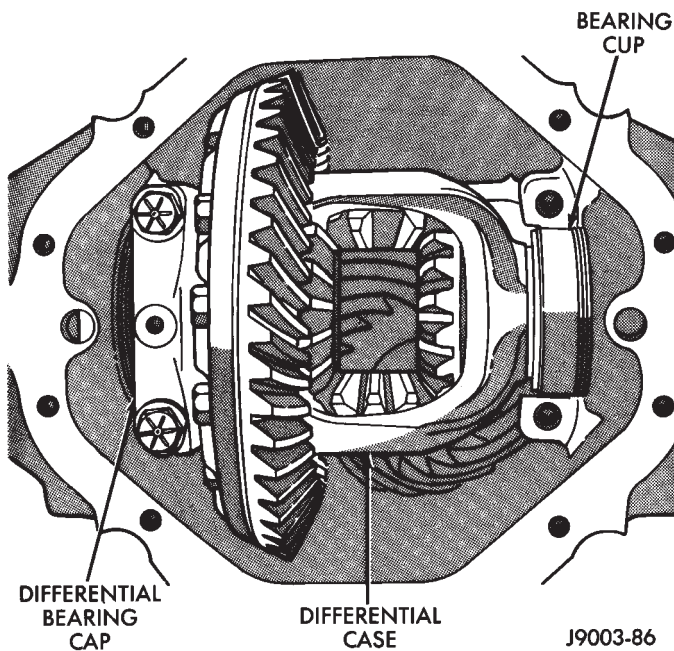

Fig. 13 Differential Bearing Cap Removed
(8) Hold the differential case in place. Remove the bearing caps, adjusters and differential case (Fig. 13).